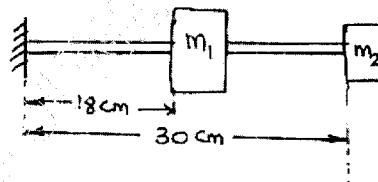

Fig. Q7 (b)
- b. Find the lowest natural frequency of vibration for the system shown in Fig. Q7 (b) by Rayleighs method. Take $E = 1.96 \times 10^{11} \text{ N/m}^2$, $I = 4 \times 10^{-7} \text{ m}^4$, $m_1 = 100 \text{ kg}$ and $m_2 = 50 \text{ kg}$. (12 Marks)